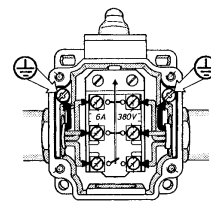

Fig. 4
- Three contact slow make & break 2NC/1NO, U15, 400 V, 6 A (fig. 4)
- Three contact slow make & break 1NC/2NO, U16, 400 V, 6 A (fig. 4)